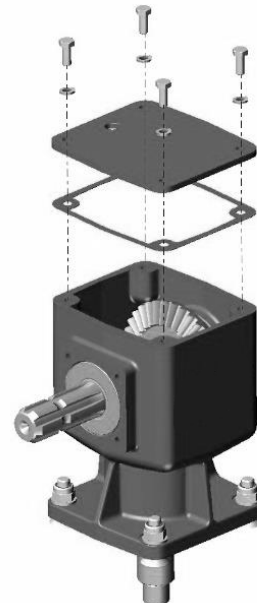

Figure 13
1. Open the gearbox by removing the bolts and washers from the top of gearbox (see Figure 13).
1. Open the gearbox by removing the bolts and washers from the top of the gearbox (see Figure 13).